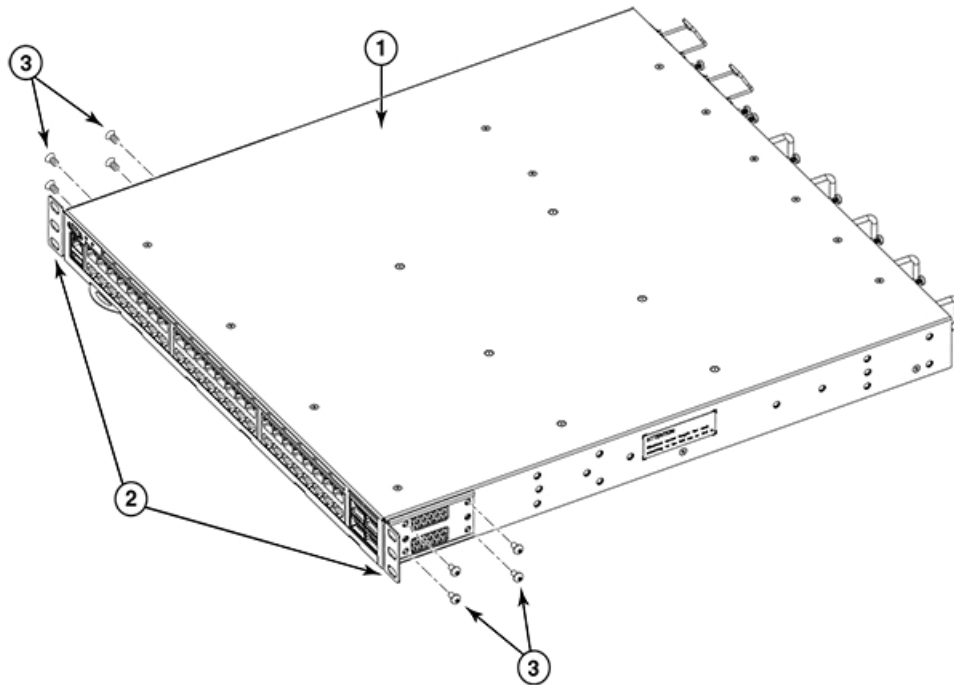

Figure 16. Attaching the front brackets
1. Position the right front bracket with the flat side against the right side of the device, as shown in Figure 16 on page 29.